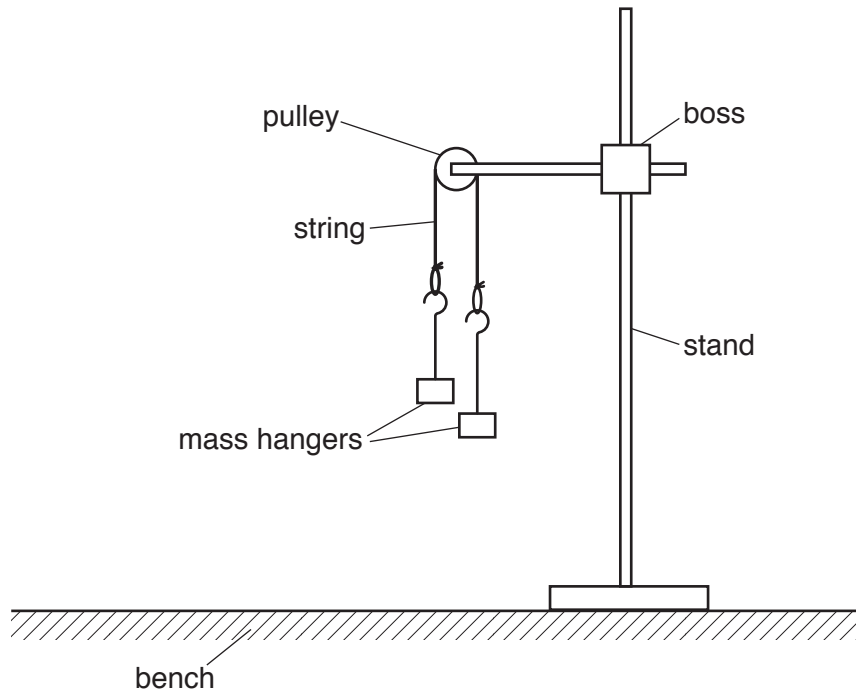

Fig. 2.1
- Using the **thicker** string, set up the apparatus as shown in Fig. 2.1.